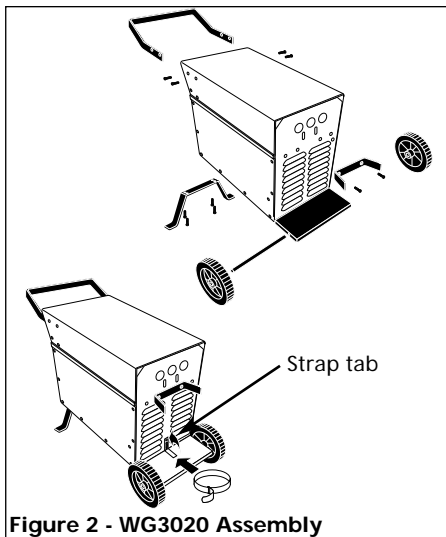

Figure 2 - WG3020 Assembly
1. Align handle holes to the inside of deck lid holes (as shown in Figure 2).
3. Bend strap tab upward and fasten using screw (See Figure 2).
5. Slide bottle straps through strap holes above bottle bracket and through strap tab (See Figure 2).